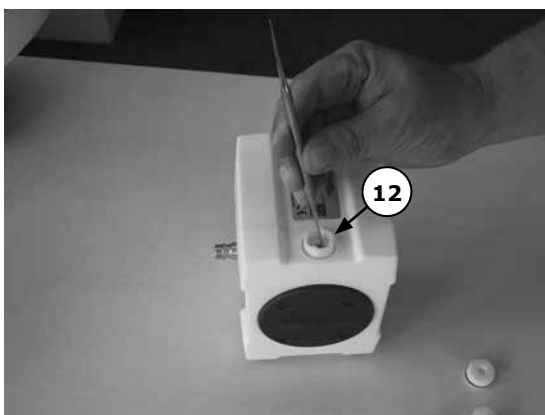

Figure 5
(11) or the cylindrical valve (10). Remove the valve seat (12) (see Figure 5). For the suction side you can work exact the